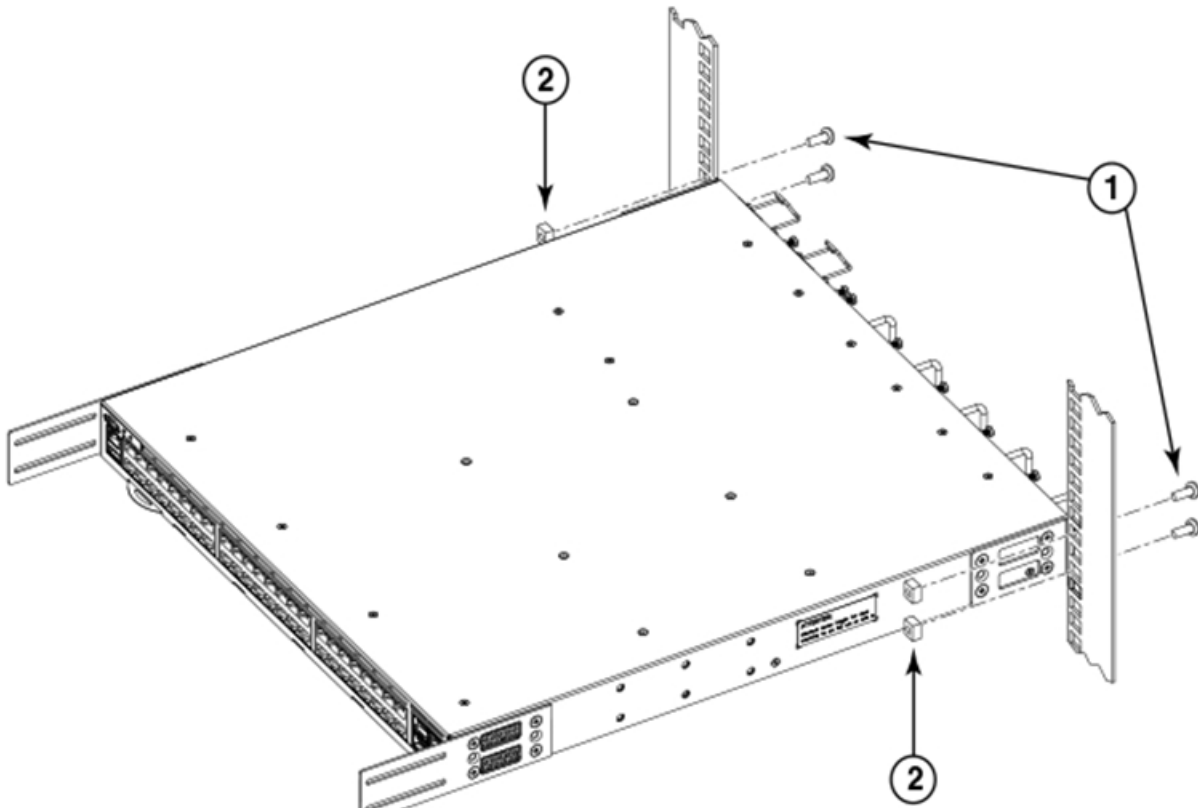

Figure 11. Positioning the device in the rack
1. Position the device in the rack, as shown in Figure 11 on page 24, providing temporary support under the device until the rail kit is secured to the rack.